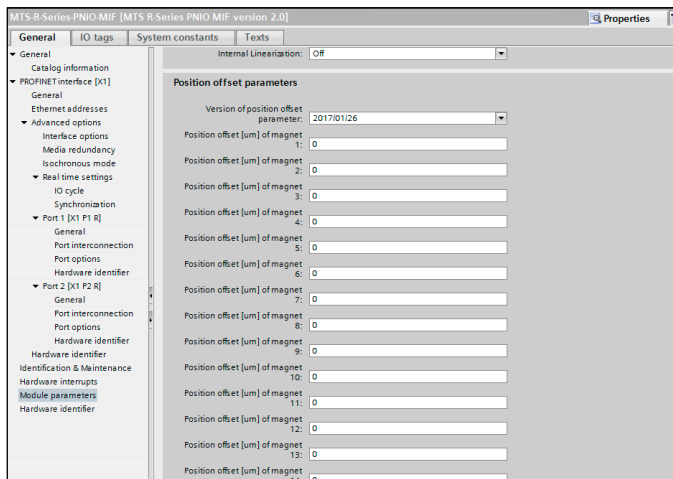

Fig. 64: Setting of the offset
- **Offset:** In the subsection “Position offset parameters” you can set the offset, a shift of the measurement range start, separately for each magnet – independent of further magnets on the sensor rod/sensor profile (Fig. 64). You can set the values with a step size of 1 µm in the range between -214...+214 m.